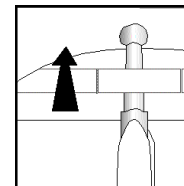

Figure 29
1. Insert one of the four clear plastic toggles on the pouch, ball-end first, upward through one of the white webbing slots on the packbag. **Refer to Figure 29.**